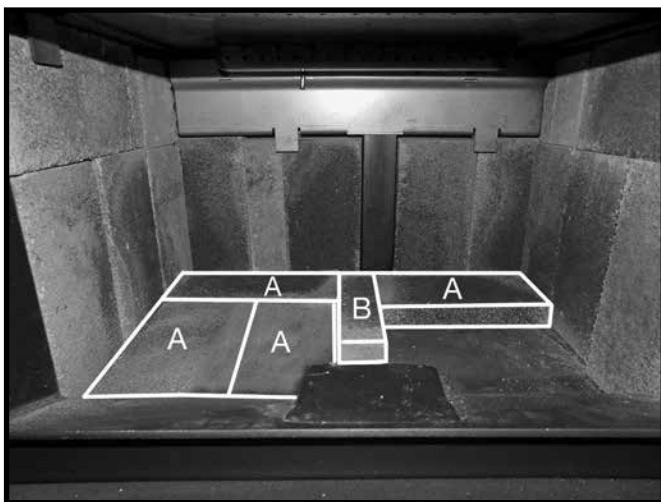

Figure 20: Left side A bricks in place.
6. Place two "A" bricks in front of the rear left hand side "A" corner brick (Figure 20).